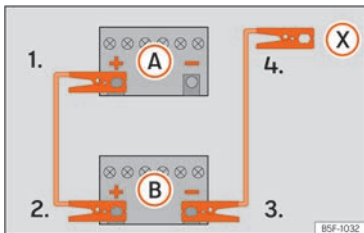

Fig. 81 Diagram of connections for vehicles without Start Stop system
2. Connect one end of the **red** jump lead to the positive (+) terminal of the vehicle with the flat battery (A) »» Fig. 81.
3. Connect the other end of the **red** jump lead to the positive (+) in the vehicle providing assistance (B).
- 4a. *In vehicles without a Start-Stop system:* connect one end of the **black** jump lead to the negative terminal (-) of the vehicle providing the current (B) »» Fig. 81.